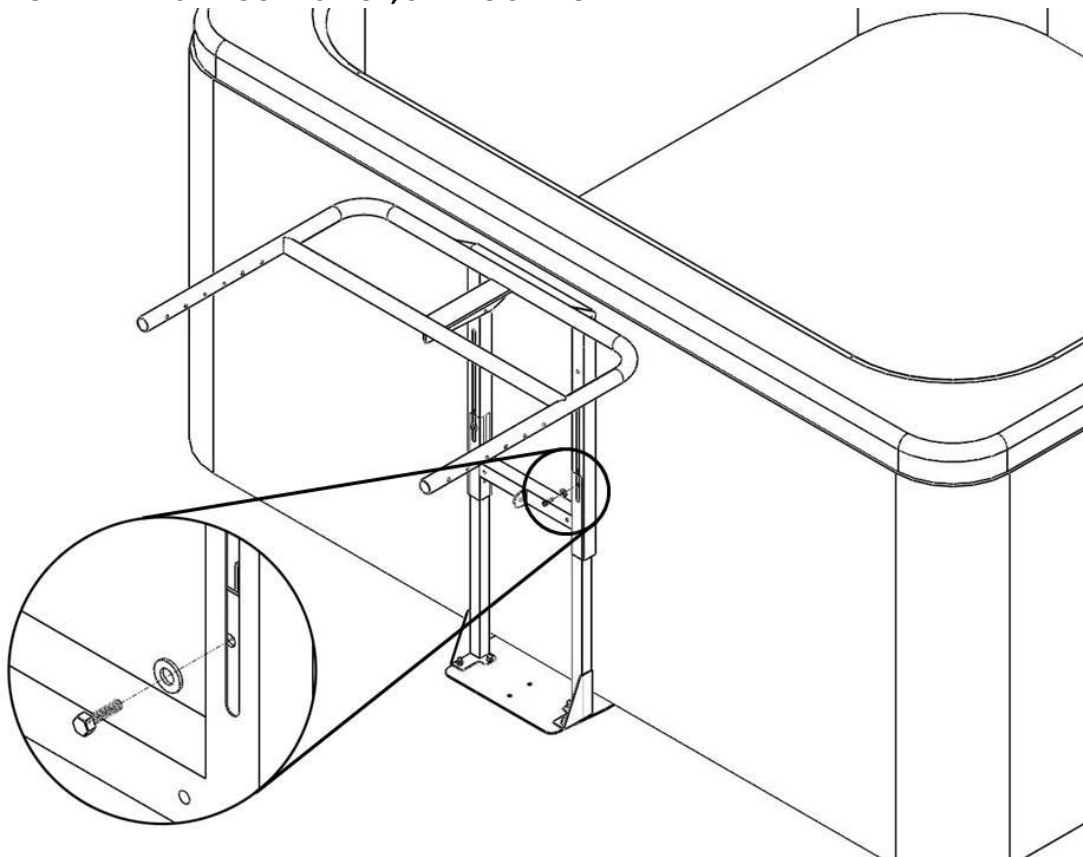

Figure 5
5. Loosely thread the ccE Adjustment Bolt through the ccH Adjustment Bolt Washer and into the threaded holes in the Support Legs. **DO NOT** tighten the adjustment screws yet. See Fig 5.